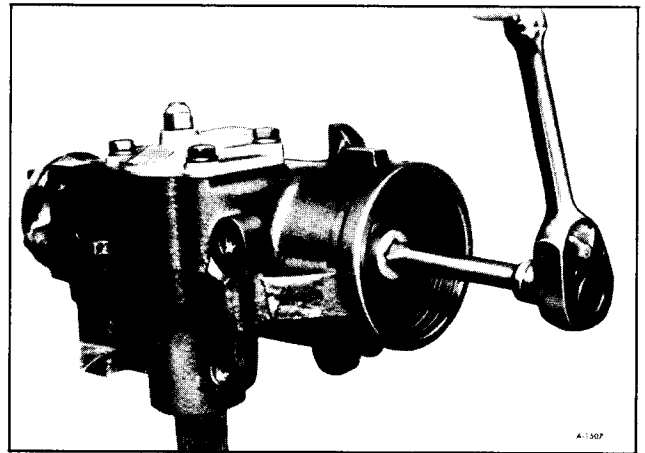

Figure 27—Removing Rack-Piston End Plug
3. Remove the rack-piston end plug as shown in Figure 27.